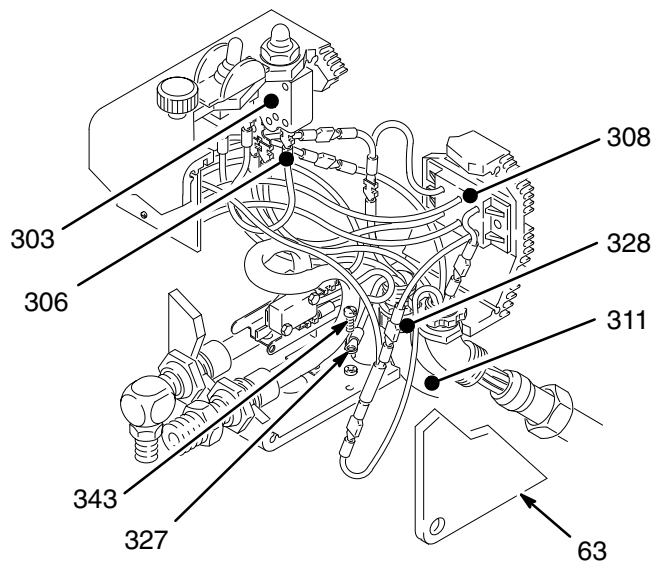

Fig. 15
**NOTE:** Refer to Fig. 15 for this procedure.
2. Remove the pressure control cover (63).
3. Disconnect the electrical lead for the power cord from the ON/OFF switch (303). Disconnect the white wire going to the bridge (308). Disconnect the green wire to the grounding screw (343).
4. Loosen the bushing (328). Remove the power cord (311).
5. Install the new power cord (311) in the reverse order of disassembly.
3. Disconnect the upper terminal wire from the micro-switch (302) and the two black wires from the ON/OFF switch (303). See Fig. 15.